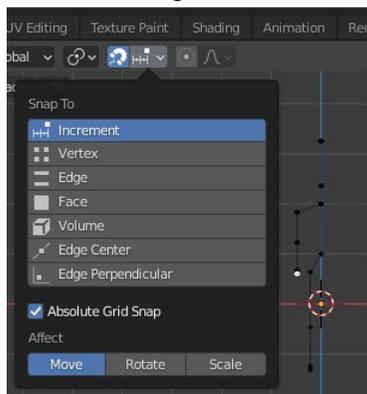

Figure 2-11 Using Snap to position vertices
2. Move the remaining vertex to a location above the origin ($X=0$, $Y=0$, $Z=1$ for instance, but the exact height doesn't matter). Rather than use the Sidebar Transform to set the positions to zero, as you did in the previous exercise, toggle the **Snap** magnet at the top and set it to **Absolute Grid** as shown in Figure 2-11. Use the X and Y orthographic views to position the vertex above the origin.